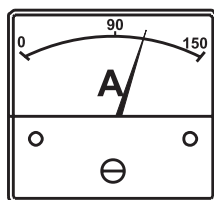

Figure 57. Ammeter (Load)
13. Observe the generator's ammeter (Figure 57) and verify it reads the anticipated amount of current with respect to the load. The ammeter will only display a current reading if a load is in use.